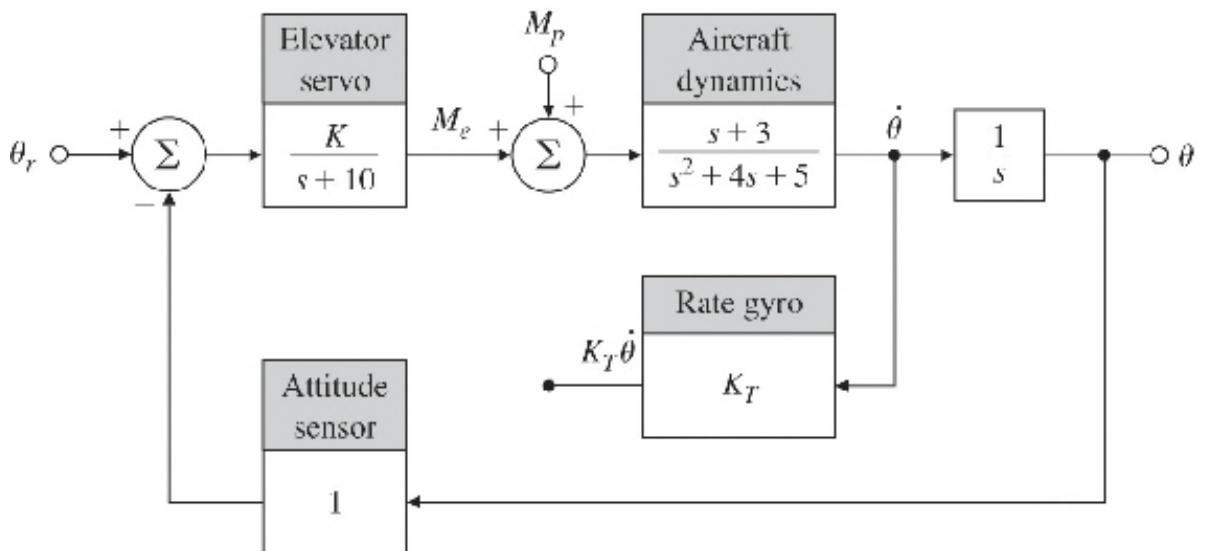

Fig. 5.67 Golden Nugget Airlines Autopilot
39. Golden Nugget Airlines has opened a free bar in the tail of their airplanes in an attempt to lure customers. In order to automatically adjust for the sudden weight shift due to passengers rushing to the bar when it first opens, the airline is mechanizing a pitch-attitude auto pilot. Figure 5.67 shows the block diagram of the proposed arrangement. We will model the passenger moment as a step disturbance $M_p(s) = M_0/s$, with a maximum expected value for M_0 of 0.6.